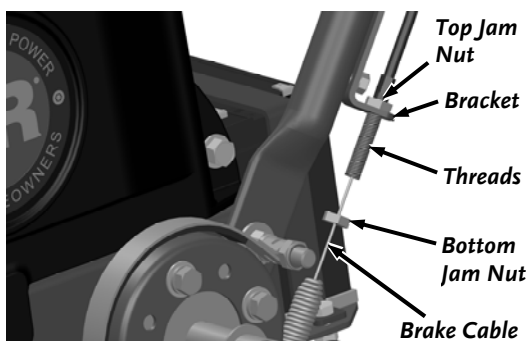

Figure 13
17. Rotate the top Jam Nut to the top of the threads on the Brake Cable (**Figure 13**).